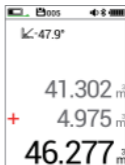

Figure 9 Sum of volume
Step 4: Short press  key, the instrument will automatically sum the two volumes. The auxiliary display area will display the first and second volume values, and the main display area will display the sum of the two volumes, as shown in Figure 9.